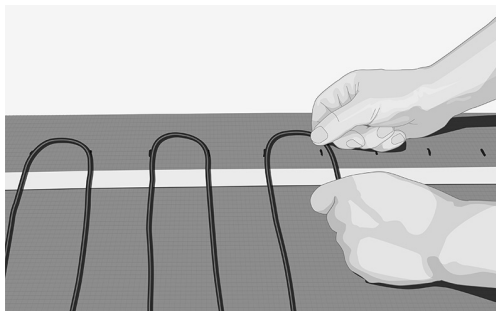

Fig. 11. Lay out the cable according to the CC marking
9. Lay out the heating cable and fasten at regular intervals (Fig. 11).